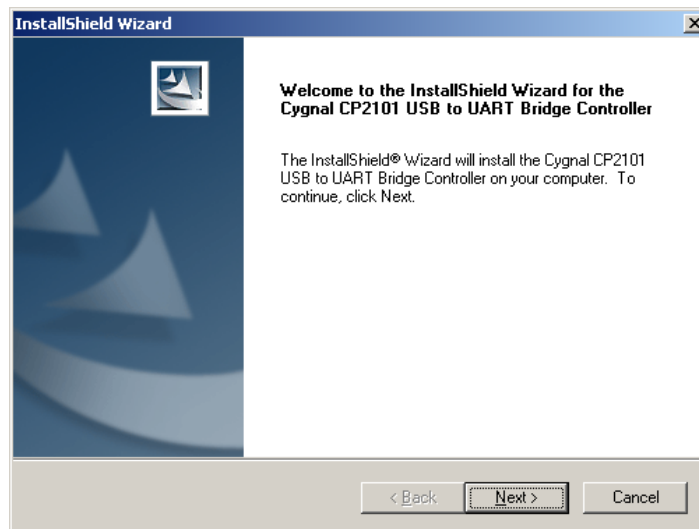

Figure 3: CP2101 USB Driver Setup Wizard
1. Start the decompression of the USB drivers by executing the **CP2101_drivers.exe** executable file located on the CD-ROM at **\ZIC2410\Tools\Others\CP210X_Driver**. The screen in Figure 3 will be displayed. Click the **Next** button.